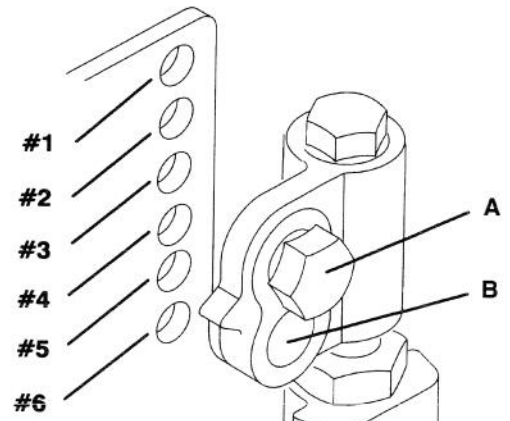

Figure 9
**IMPORTANT:** The rear roller must be leveled before setting the height of cut. For initial set-up of the cutting unit, set the quick height-of-cut pins in the lower holes of height-of-cut supports and through the #3 hole in the cutting unit side plate (Fig. 9).